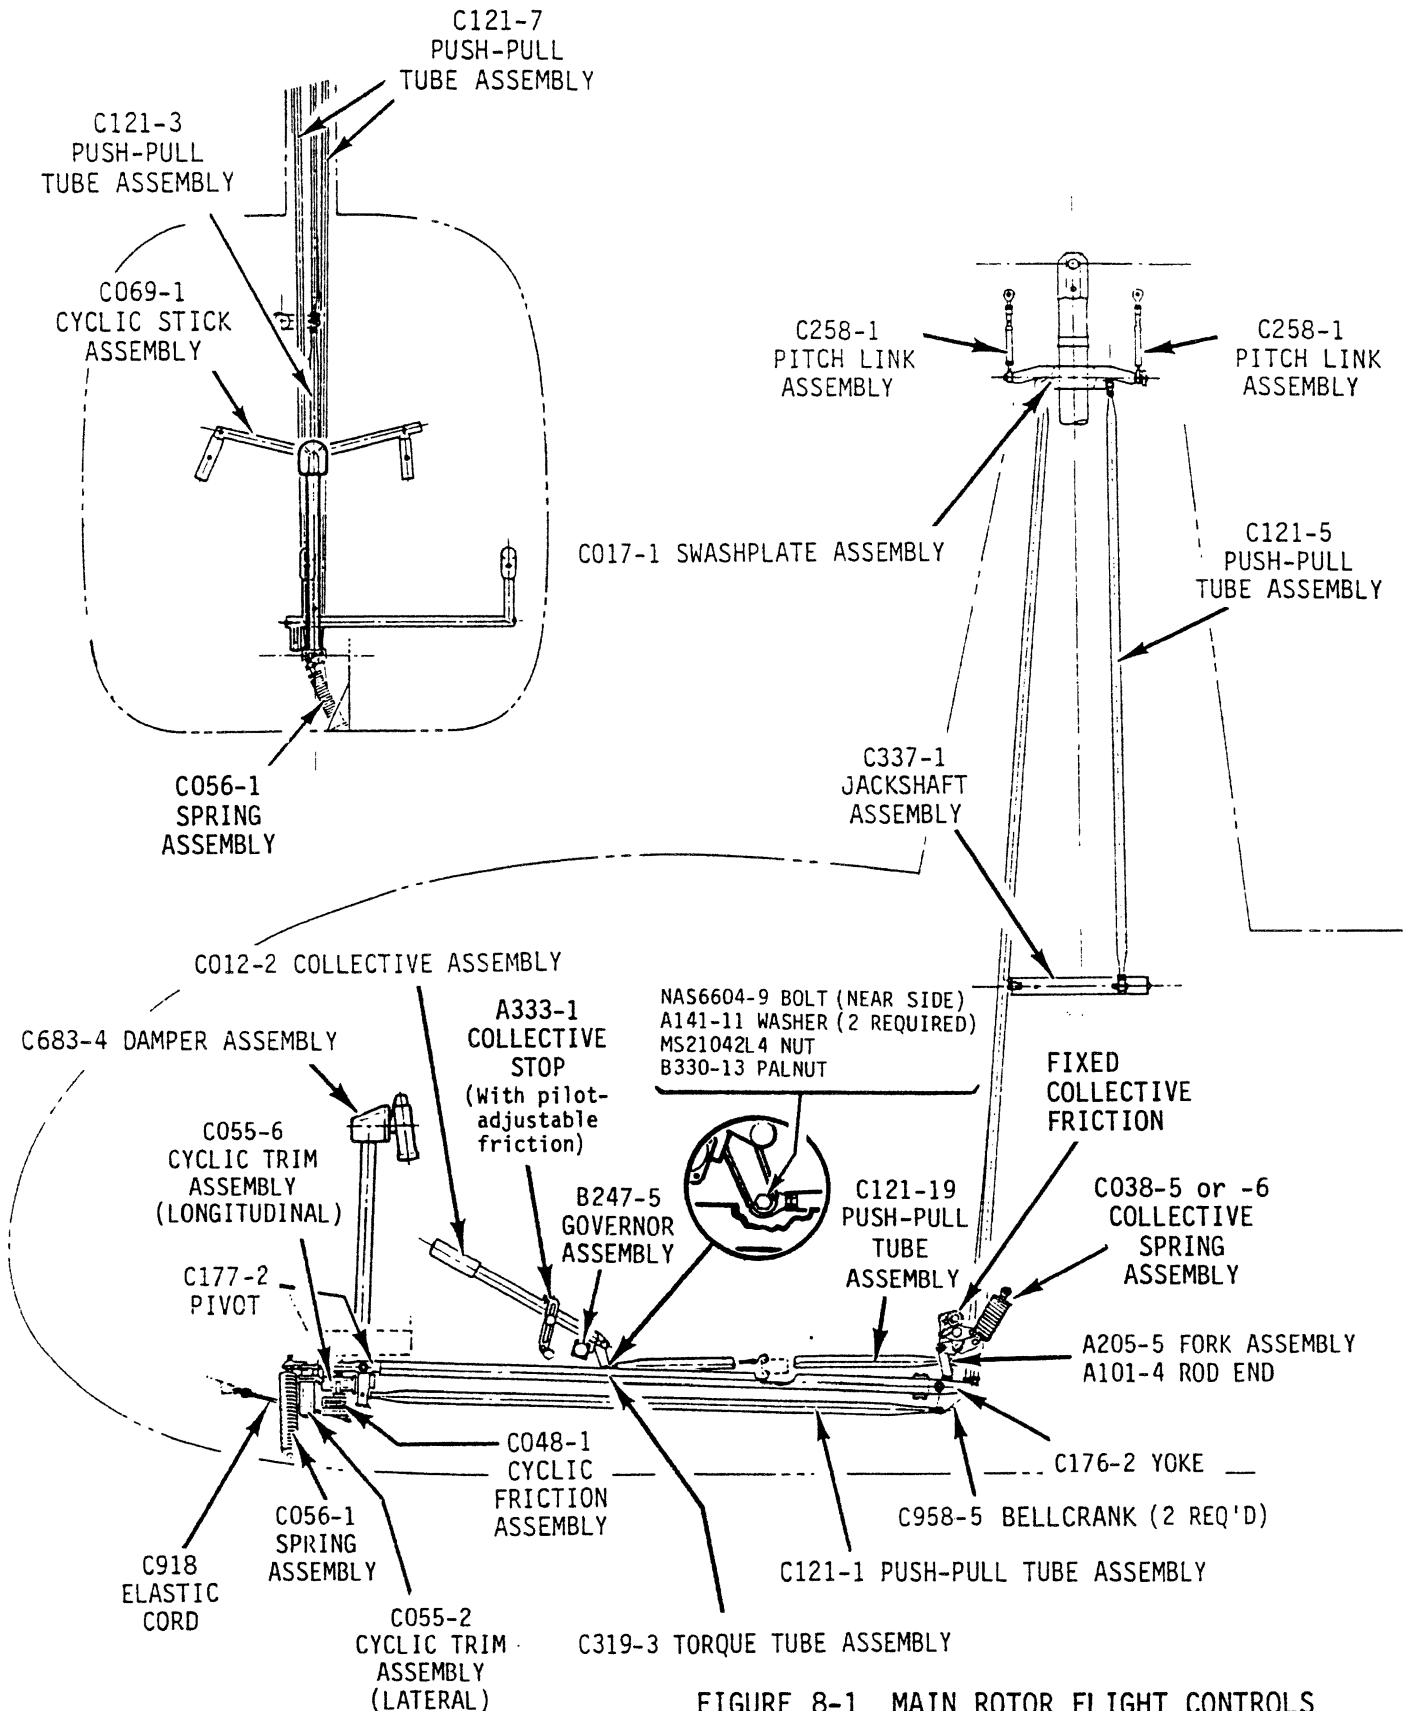

FIGURE 8-1 MAIN ROTOR FLIGHT CONTROLS
8.002 Description (see Figures 8-1 and 8-2)